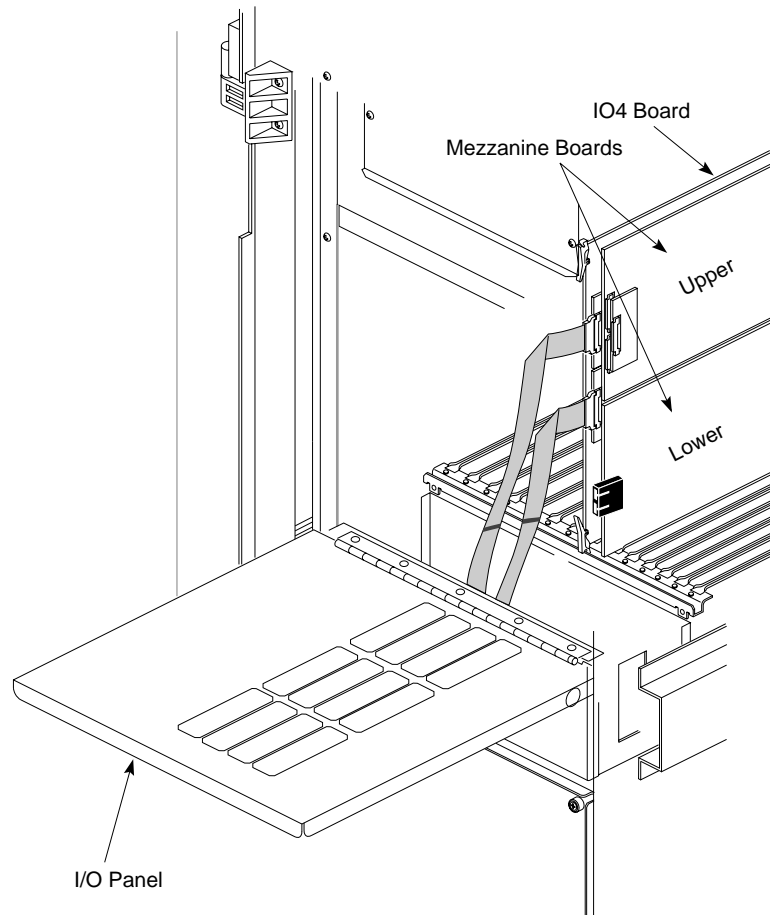

Figure 2-16 Installed IO4 Board
6. Reinstall the IO4 board into the chassis, as illustrated in Figure 2-16. Push the board firmly into the backplane. If the board has a VCAM board, the VCAM board must also seat into the backplane.